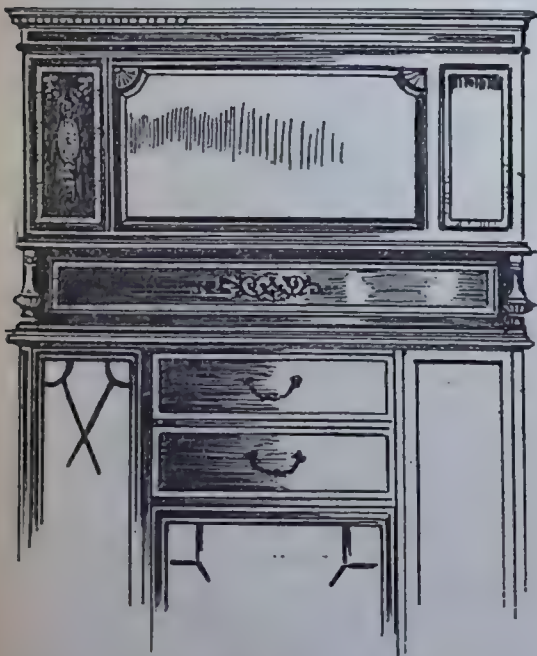
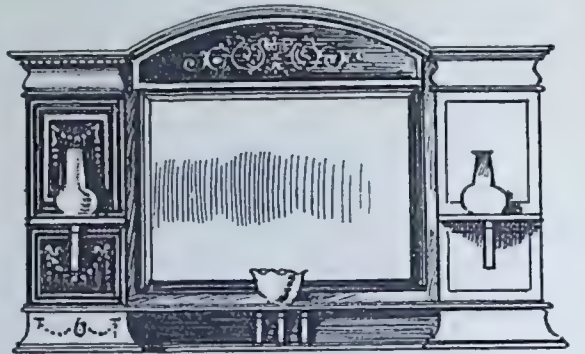

FIG. 1.—UPPER BACK FOR DISPLAY CABINET (No. 333).
FIG. 2.—ALTERNATIVE SKETCH AND DETAILS OF UPPER BACK FOR DISPLAY CABINET (No. 333).
REPLY.—Either of the sketch-suggestions offered here should prove of assistance to you in making the alterations to the upper part of cabinet referred to. Fig. 1 has a moulded shelf, say, 7 ins. above table top, supported by turned and carved columns. The mirror with shaped upper corners, would come out at 24 ins. by 12 ins. high. The panels on either side of glass and under shelf are indicated with satinwood banding and will offer an opportunity for introducing a little neat inlay. Inlaid fans are also shown in corners of shaped mirror. The cornice and frieze should be carefully worked out to get a neat effect. The cornice mould, say 1½ in. wide, is shown dentilled, the dentils being either cut or inlaid. The frieze is inlaid with ½ in. banding, with plain bead or astragal mould, the height over all being 2½ ins. The drawers in lower carcase are also inlaid with banding, and may have a scrolled inlay introduced with a couple of drop ring handles instead of the central handle as shown. Height to the table top would be from 3 ft. 3 ins. to 3 ft. 6 ins. for the larger sized cabinet, and the back sketched (Fig. 1) would work out at
24 ins. high. Fig. 2 would involve a trifle more work, but would give scope for more elaborate inlay. The wing panels are broken each by a shaped shelf, as indicated by the vases, and a lower shelf extends the full length of back, supported in the centre by three shaped brackets. At the extremities of this shelf (in line with the wing panels), a couple of shaped
as capping the full length, with additional dentilled mould and a shaped and projecting frieze applied above the wing panel mould. The size of mirror shown is 22 ins. by 15 ins., and the height of back over wings is 23 ins. with a 3 in. rise in centre. The shaped side shelves (A) may finish 7 ins. by 4½ ins. by ½ in., and the lower shelf (B) 3 ins. wide in centre by 5 ins. or 6 ins. at ends as preferred. Rough sketches of bracket shaping (C) and cornice (D) are given for Fig. 2, together with cornice (E) and turned column (F), for Fig. 1. We may add that we are always pleased to hear from old readers of THE WOODWORKER, and are glad to know that it has proved of such good service to you.